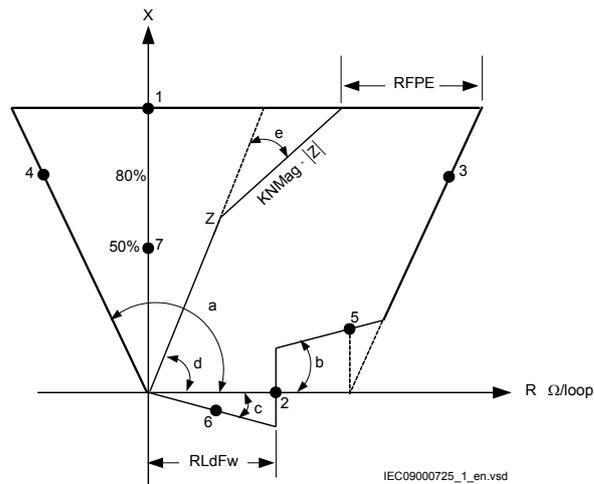

Figure 10: Distance protection characteristic with test points for phase-to-earth measurements
Table 3 is used in conjunction with figure 10.
4. Repeat steps 1 to 3 to find the operating value for the phase-to-earth fault L3-E according to figure 10 and table 3
3. Repeat steps 1 to 2 to find the operating time for the phase-to-earth fault according to test point 7 in figure 10 and table 3. Compare the result of the measurement with the setting $tIPE$.